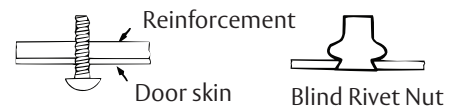

Figure 3
- Doors and Frames with walls having a structural thickness (metal skin plus reinforcement or solid hardwood) to engage less than (3) full screw threads are considered unreinforced.
- Recommended fasteners for unreinforced openings are not necessarily supplied by Corbin Russwin (Figure 3).